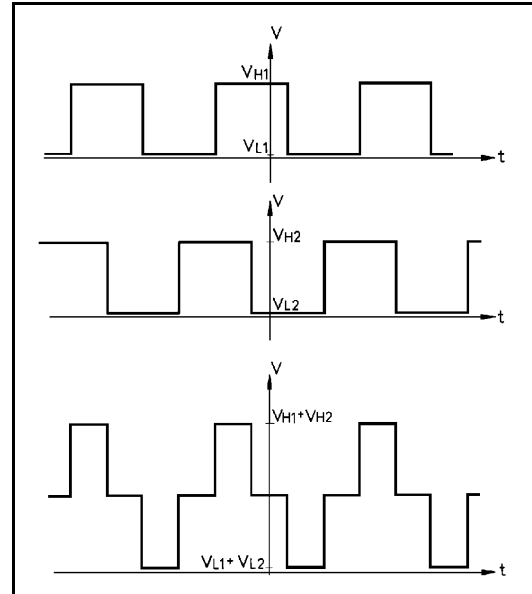

Figure 8-5: Encoder Signals
- Using an oscilloscope, check the signals (P_0 and P_1) received from the encoder's two phototransistors. Figure 8-5 shows the wave diagrams which emanate from the two channels of the encoder (P_0 and P_1) with respect to the time axis. The top two signals should be clean square waves: